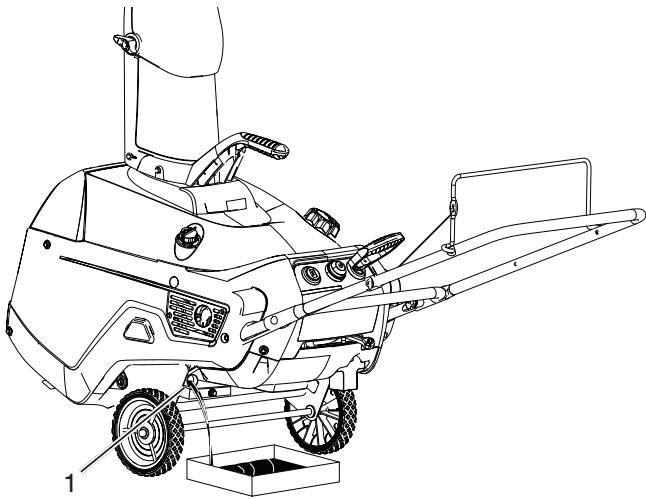

Figure 23
4. Place an oil drain pan under the oil drain plug, remove the oil drain plug, and tip the snowblower backward and drain the used oil in the oil drain pan (Figure 23).
6. Screw in the oil fill cap/dipstick and hand tighten it securely (1).